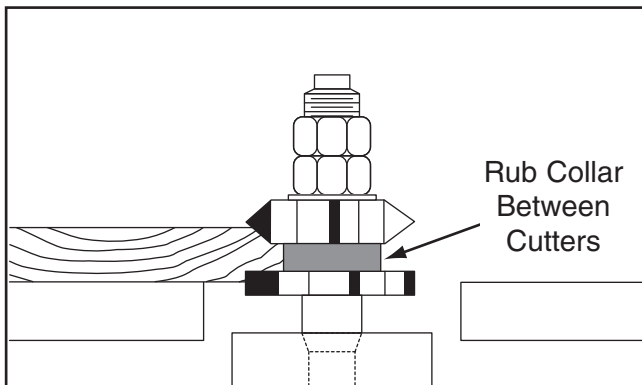

Figure 33. Using rub collar between cutters.
3. **Rub collar between two cutters:** Using rub collar between two cutters offers distinct advantage of performing two cuts at once or eliminating the need to change cutters for two different operations (see **Figure 33**). Notice that part of workpiece edge remains uncut and rides along rub collar.